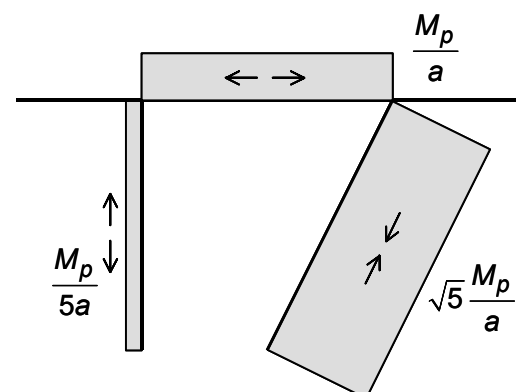

Figure 3. Normal force distribution
- b** Assume $\beta \rightarrow \infty$. Draw the bending moment diagram for the whole structure at the moment of collapse. (The normal force diagram is plotted in Figure 3.) (1 point)